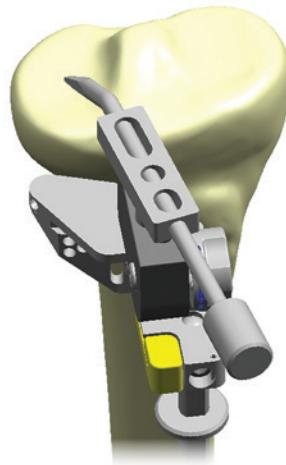

Figure 28
- 5 Finally, set depth using the Depth Stylus to reference the center of the medial tibia plateau (Figure 28). In the case of extreme medial wear, reference the lateral tibia or adjust the stylus for appropriate compensation.